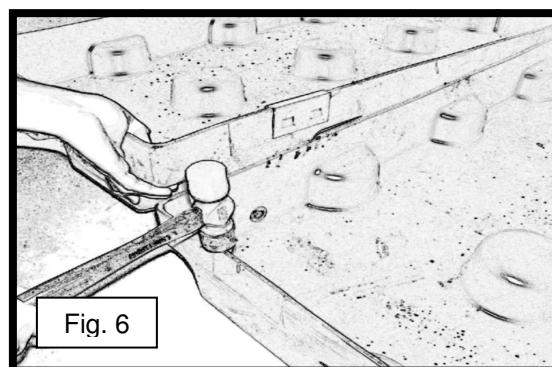

Fig. 6
- 2) After repeated taps, the accumulation centers should separate (see fig. 6). Repeat step 1 to detach the other Joining Clip.